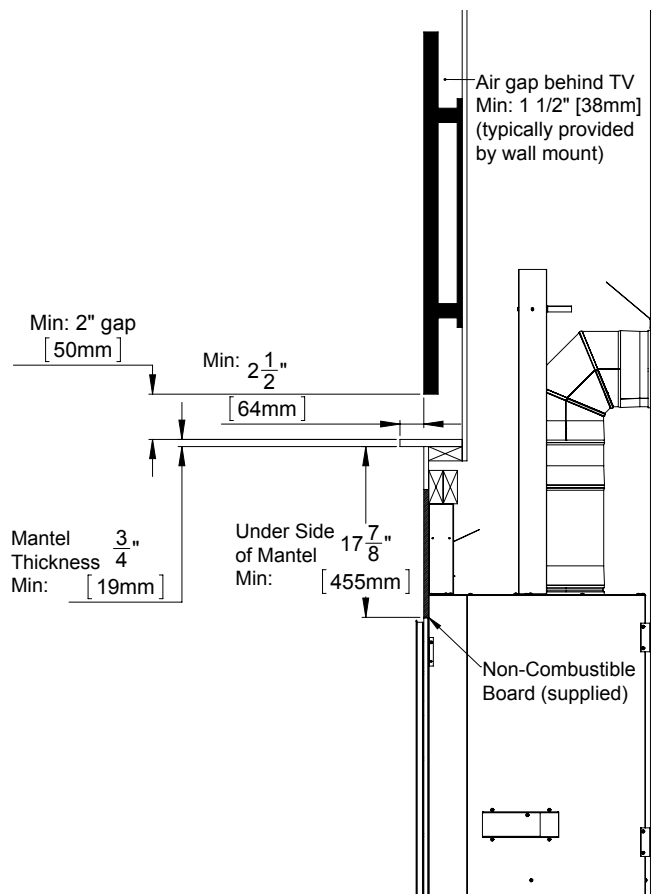

Figure 57. Recess Minimum TV Install
**Recess/Mantel Installation:** Always maintain minimum clearances (see Figure 57). The total depth of the TV and wall mount as well as the recess depth will determine the minimum whether or not a mantel is recommended. A mantel may not be needed if the TV and Mount are low profile enough.